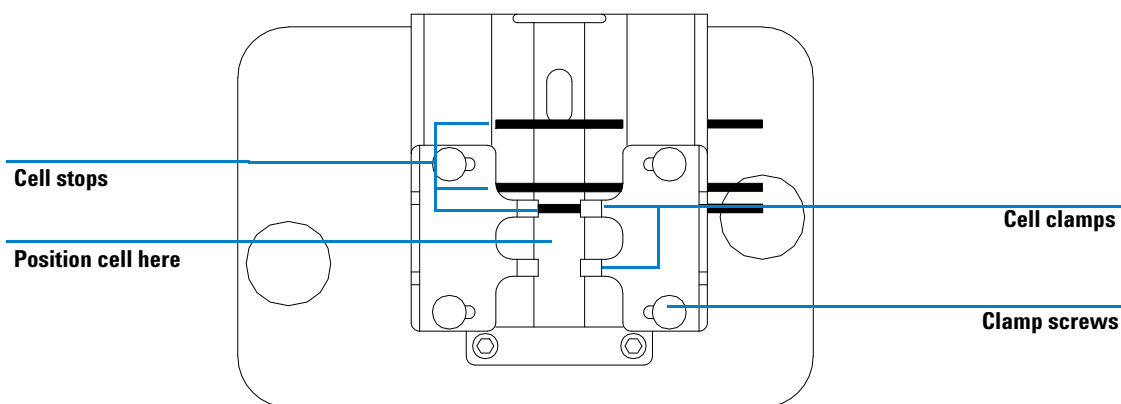

Figure 18 Positioning the Cell Stops for a 1-cm Sample Cell
- 2 If your sample cell is not one of the standard lengths, position the cell stops as for a long path sample cell, i.e. move all cell stops in Figure 18 to the left.